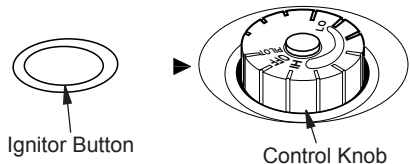

Figure 19 - Control Knob in the OFF Position
4. Wait five (5) minutes to clear out any air. Then smell for gas, including near the floor. If you smell gas, STOP! Follow "B" in the safety information, page 15. If you do not smell gas, go to the next step.
5. Turn control knob counterclockwise  to the PILOT position. Press in control knob for five (5) seconds (see Figure 19).
*Note: The first time that the heater is operated after connecting the gas supply, the control knob should be pressed for about thirty (30) seconds. This will allow air to bleed from the gas system. If pilot does not stay lit, refer to Troubleshooting, pages 20 through 22. Also contact a qualified service technician or gas supplier for repairs. Until repairs are made, light pilot with match.*
*Note: If pilot goes out, repeat steps 3 through 7. This heater has a safety interlock system. Wait one (1) minute before lighting pilot again.*